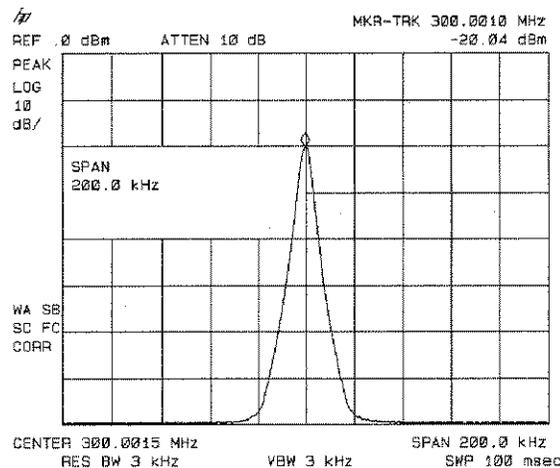

Figure 3-7. After Zooming In on the Signal
2. Press **MKR FCTN**, **MK TRACK ON OFF** (ON) and the signal will move to the center of the screen, if it is not already positioned there (note that the marker must be on the signal). Because the marker track function automatically maintains the signal at the center of the screen, you can reduce the span quickly for a closer look. If the signal drifts off of the screen as you decrease the span, use a wider frequency span.
3. Press **SPAN**, 200 **kHz**. The span decreases in steps as automatic zoom is completed. See Figure 3-7. You can also use the knob or step keys to decrease the span or use the **PEAK ZOOM** function under **SPAN**.